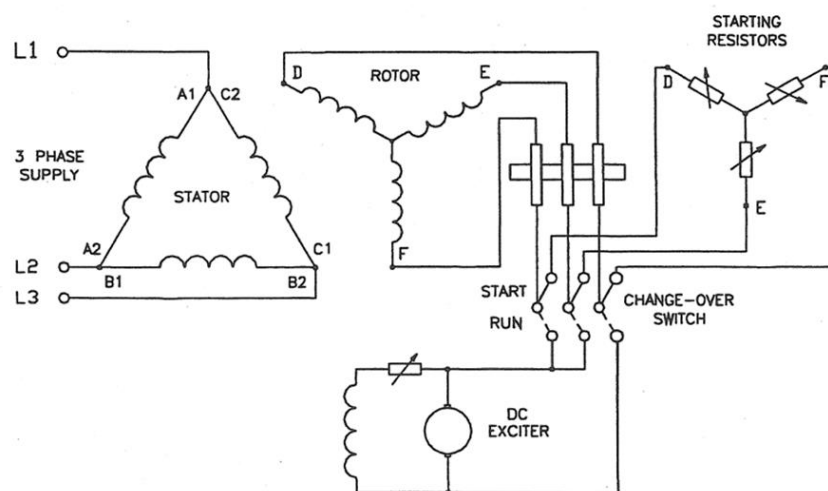

Figure 11 - Wound rotor motor as a synchronous motor.
43. A normal three phase wound rotor motor can be run as a synchronous induction motor by running it up to speed in the normal way, then using a change-over switch to provide d.c. to the rotor winding via the rotor slip rings. The d.c. to the rotor is fed in on two slip rings and out on the other as shown in Figure 11.